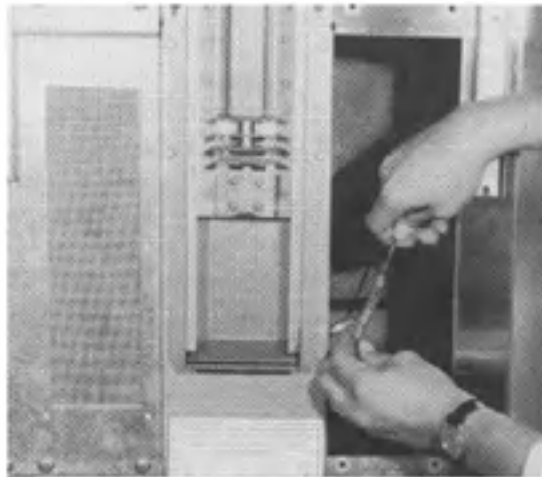

FIG. 10
4. Remove the seven (7) screws securing Danger Label panel and either left or right back panel (Servicer preference) to rear of fryer and save for reuse.
6. Disconnect the two (2) vent solenoid wires from harness wires at insulated terminals (See Figure 10).
7. Remove the four (4) screws securing vent block to vent assembly. Save screws, block and ball (if applicable) for reuse.